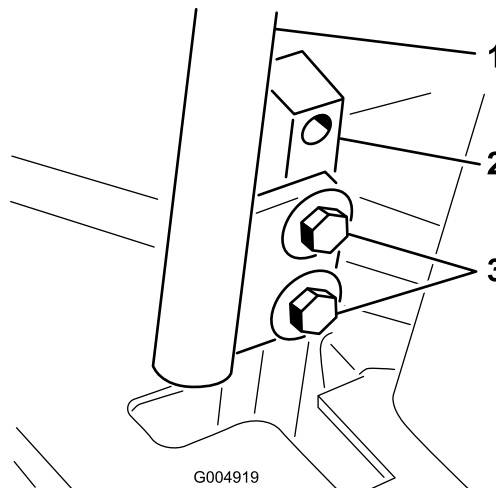

Figure 58
- Loosen the bolts securing the control levers (Figure 58)